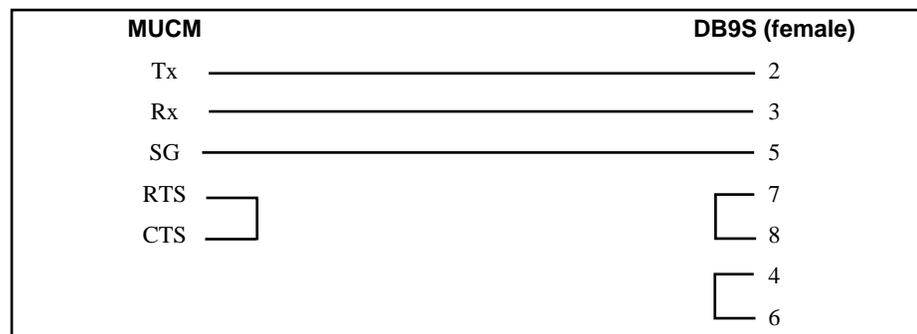

Figure 2-2 MUCM to PC RS-232 (MU1 Cable)
- MU1 cable (or equivalent can be built; see Figure 2-2)
A physical connection must be made from the personal computer to the MUCM in order to download the application. This link is a serial connection from a COM port on the personal computer to the RS-232 port on the MUCM. The Niobrara MU1 cable may be used for this connection. This cable is shown in Figure 2-2.